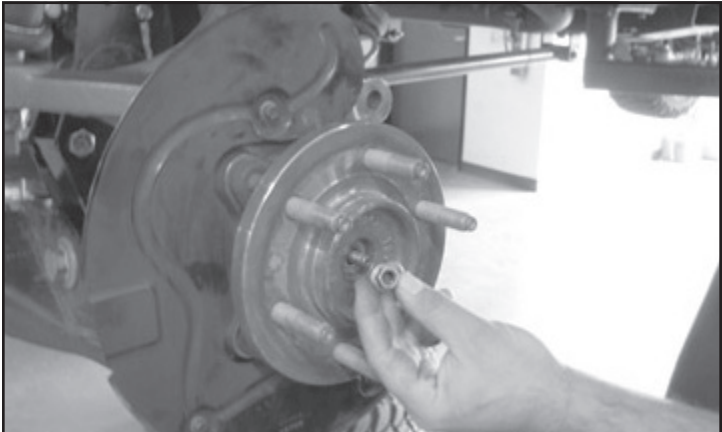

FIGURE 44 - STEP 47
47. Install the dust shield and torque to 14 ft-lbs. Install CV shaft nut and torque to 35 ft-lbs. Install the factory dust cover. **SEE FIGURE 44**